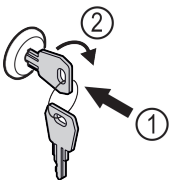

Fig. 120 Example illustration
- ▶ Insert key Fig. 120 (1).
- ▶ Turn key clockwise by 90° Fig. 120 (2).